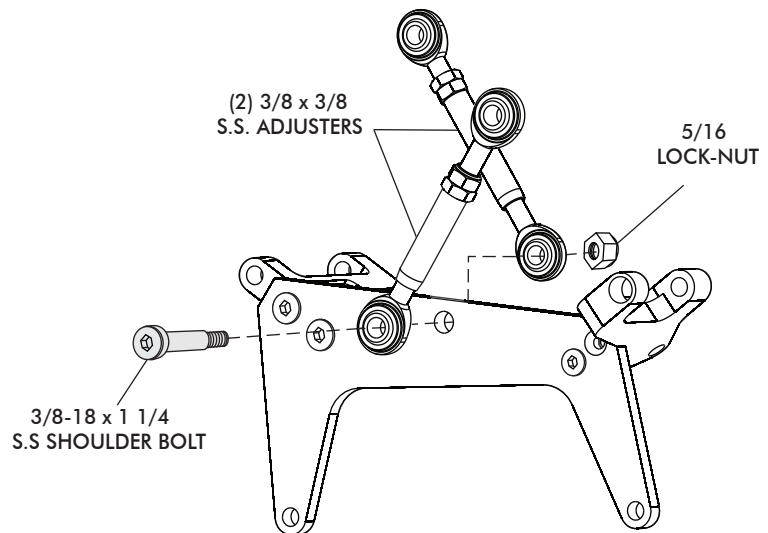

FIGURE 1a
- USING A 3/8-18 x 1 1/4" S.S. SHOULDER BOLT AND 5/16 LOCK-NUT INSTALL THE (2) 3/8 x 3/8 S.S. ADJUSTERS TO THE PROLINE MAIN BRACKET. SEE FIGURE 1a, BELOW.